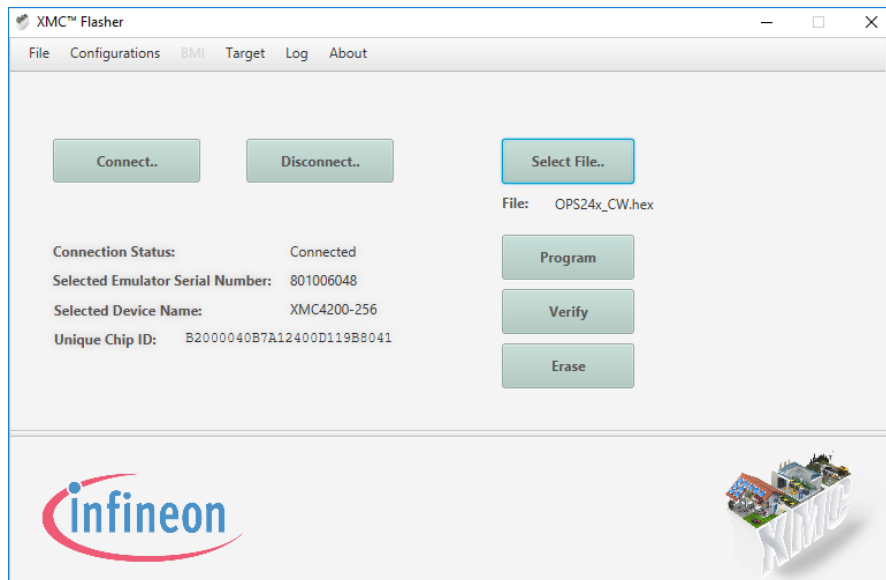

Figure 11. Hex File Selection
Step 8. Next, click on Select File and browse to the location of the hex file with the code to be updated on the OPS241/OPS242/OPS243. The name of the file will show up under the Select File button (Figure 11). Contact OmniPreSense customer service to obtain the latest code version.